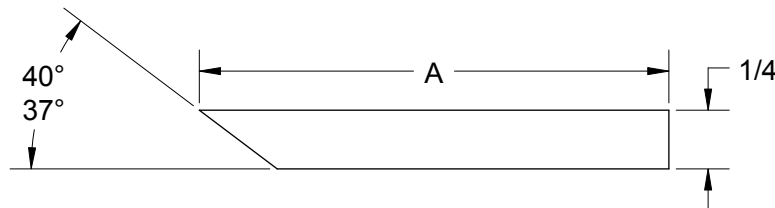

Figure 5
- d) Lay the knife down on the knife shelf. Insure the knife is installed with the **cutting angle edge facing down** as shown in Figure 5. Loosely install the three knife clamps with the nine knife mounting bolts. Tighten the mounting bolts just enough to hold the knife in position while still allowing it to be moved.